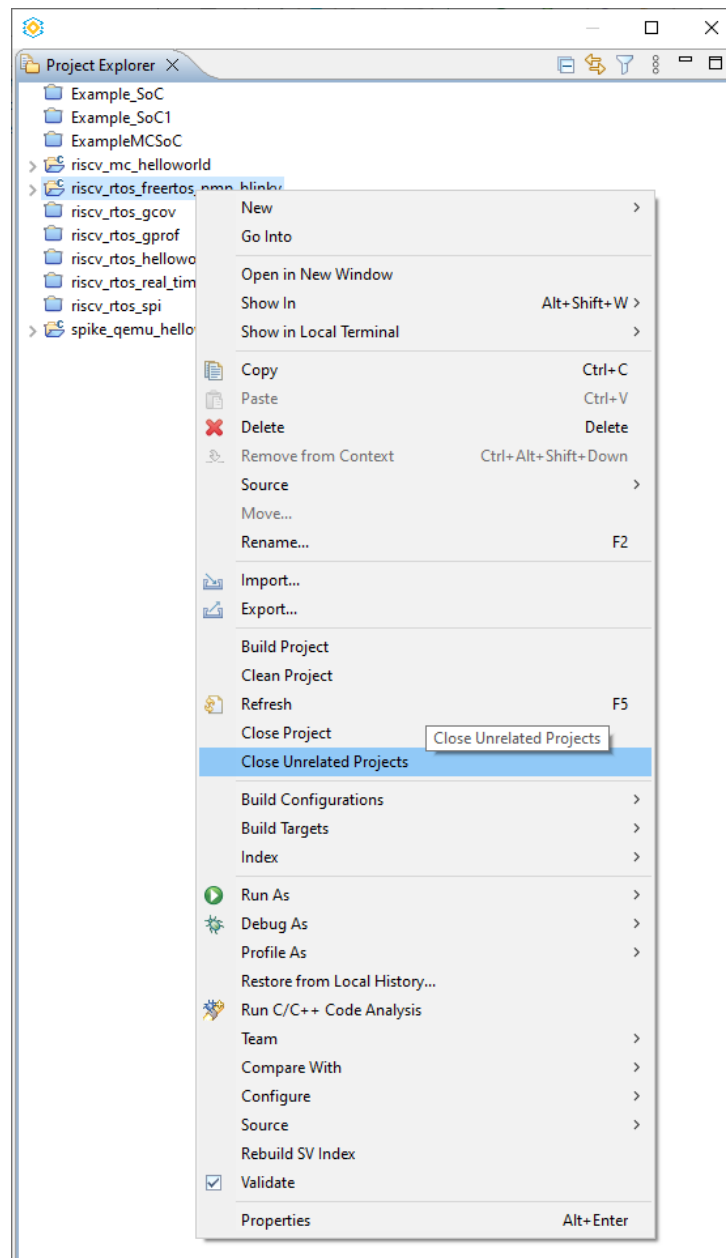

Figure H.4. Closing Unrelated Projects
- Select the debugging project, right click and select **Close Unrelated Project** (Figure H.4). Then, re-debug. In this way, breakpoints are cleared temporarily for this debugging project, while pending watchpoints are still visible. If you open a project in the Propel SDK workspace again, the breakpoints are still there.